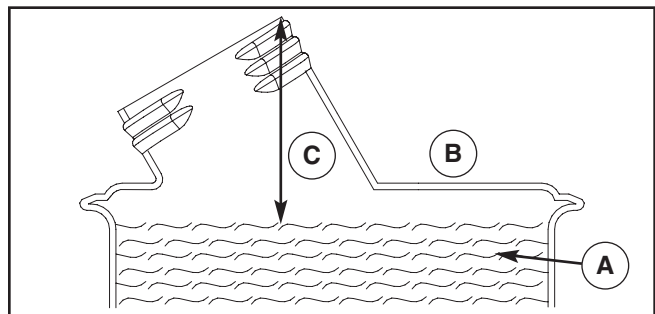

Figure 3: Fuel expansion
2. Slowly add regular unleaded fuel (A) to fuel tank (B). Be careful not to overfill. Allow about 1.5" (38 mm) (C) of tank space for fuel expansion (Figure 3).